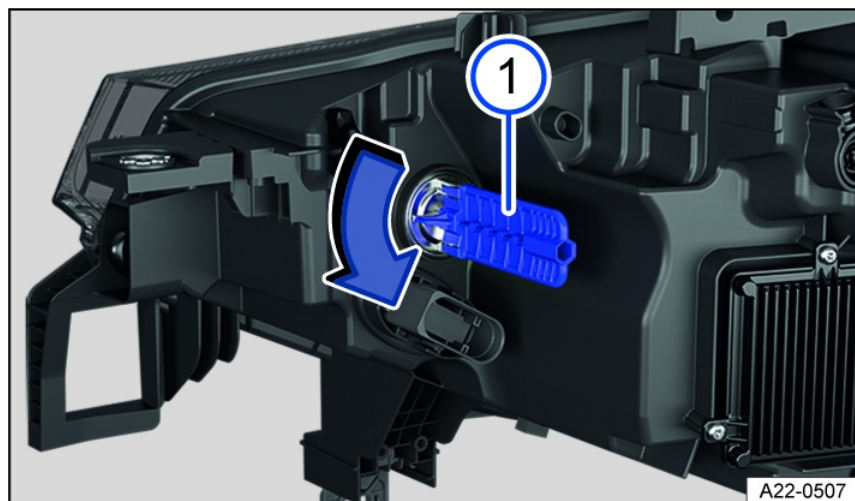

Fig. 144 In the right-side of the hood space: rear side of the headlights.
1. To remove, turn the bulb holder in the direction of the arrow fig. 144 .
3. Carefully insert the bulb holder into the headlight and turn in the opposite direction to the arrow fig. 144 .